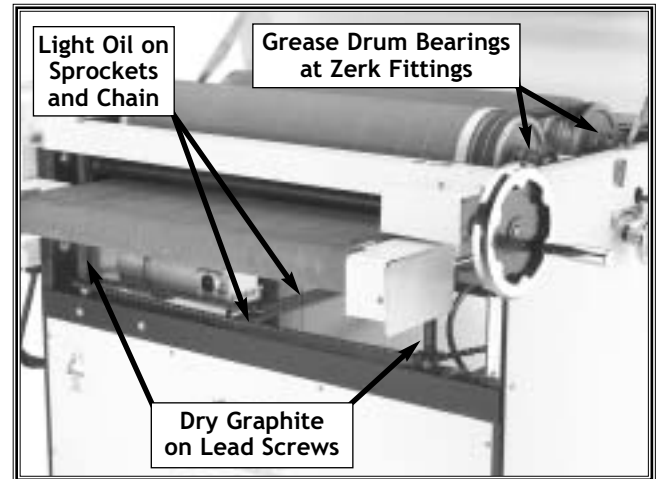

Figure 52. Drum bearings, table head screws, feed conveyor chain and sprockets.
6. Coat the feed conveyor chain and sprockets with a light machine oil, and use a rag to wipe-off the residual oil. See **Figure 52**.